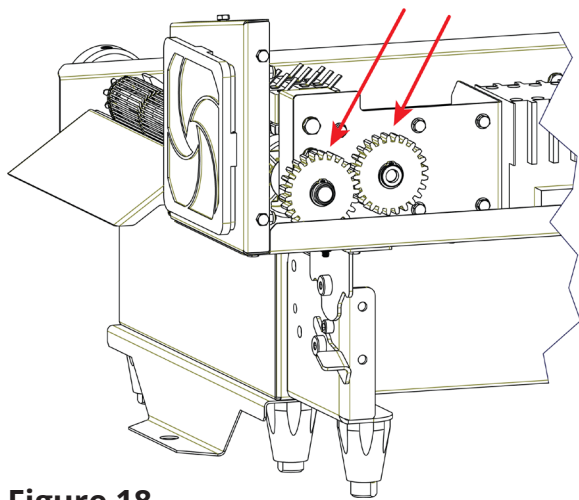

Figure 18
3. Lightly coat the gear teeth with food grade grease. See Figure 18.